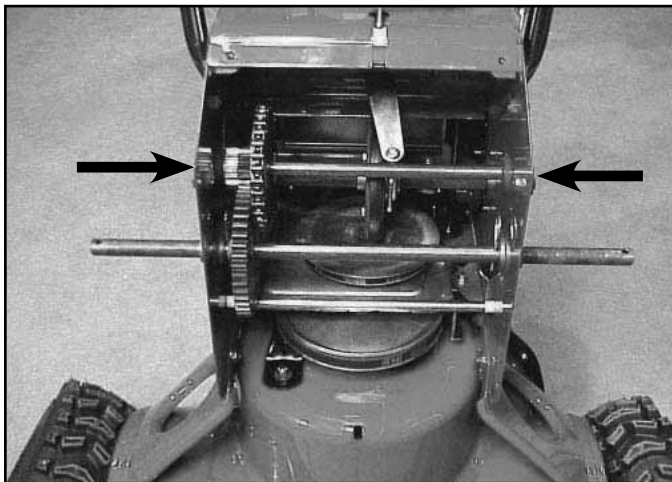

Fig 101 MVC-9022X.jpg
3. Remove the screw securing each end of the sprocket shaft (Fig. 101).